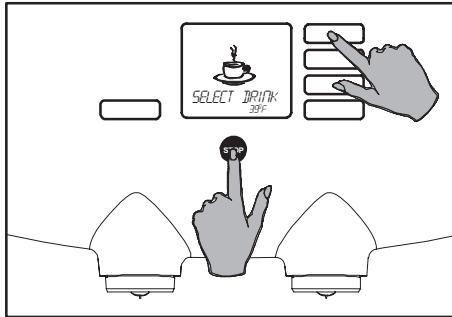
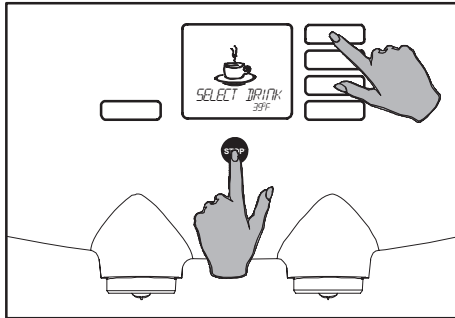

Fig. 27 Access to the operator menu
Fig. 29 Access to the operator menu
2. Now press the topmost selection button too (fig. 27);
1. Activate the operator menu (fig. 29), see also § "Access to the operator menu" (fig. 27).